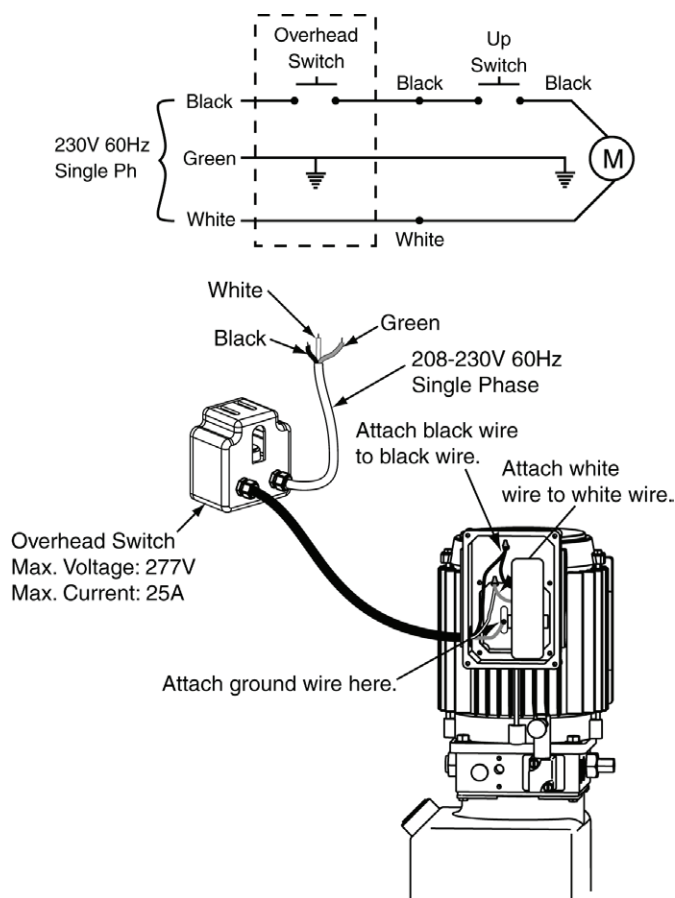

Figure 19
- * Have a certified electrician establish 208-230V, single phase, 60 Hz, 20 amp, Figure 19, power supply to motor and overhead switch .